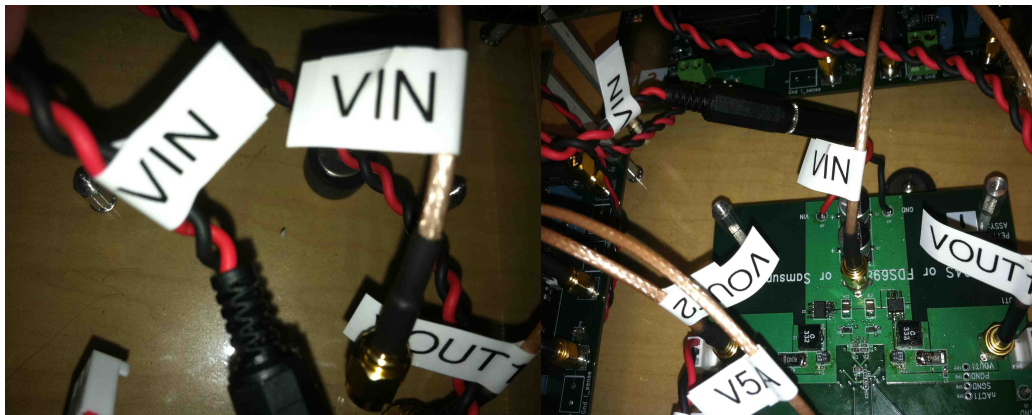

Figure 4.
Step 4: Connect the sma jack and power plug labeled VIN to your sma connector and power plug labeled VIN as seen in figure 4: